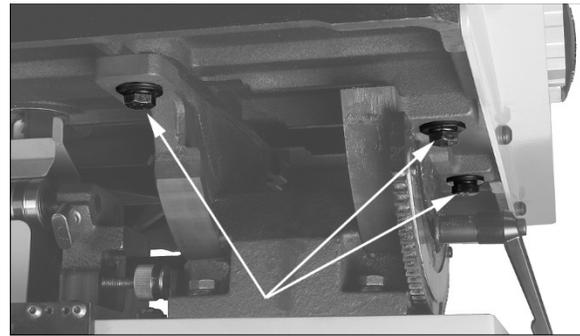

Figure 14: table adjustment screws
5. If miter slot is not parallel to blade, loosen the four hex cap screws (17mm wrench) that secure the table to the trunnion (Figure 14 shows three of them), and shift table as needed until miter slot is parallel to blade.